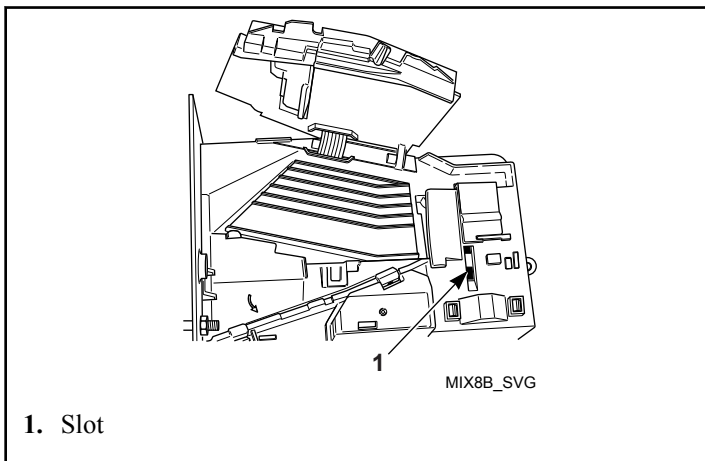

Figure 9
11. Place clip, installed on spring, in slot on coin drop. Refer to *Figure 9*.